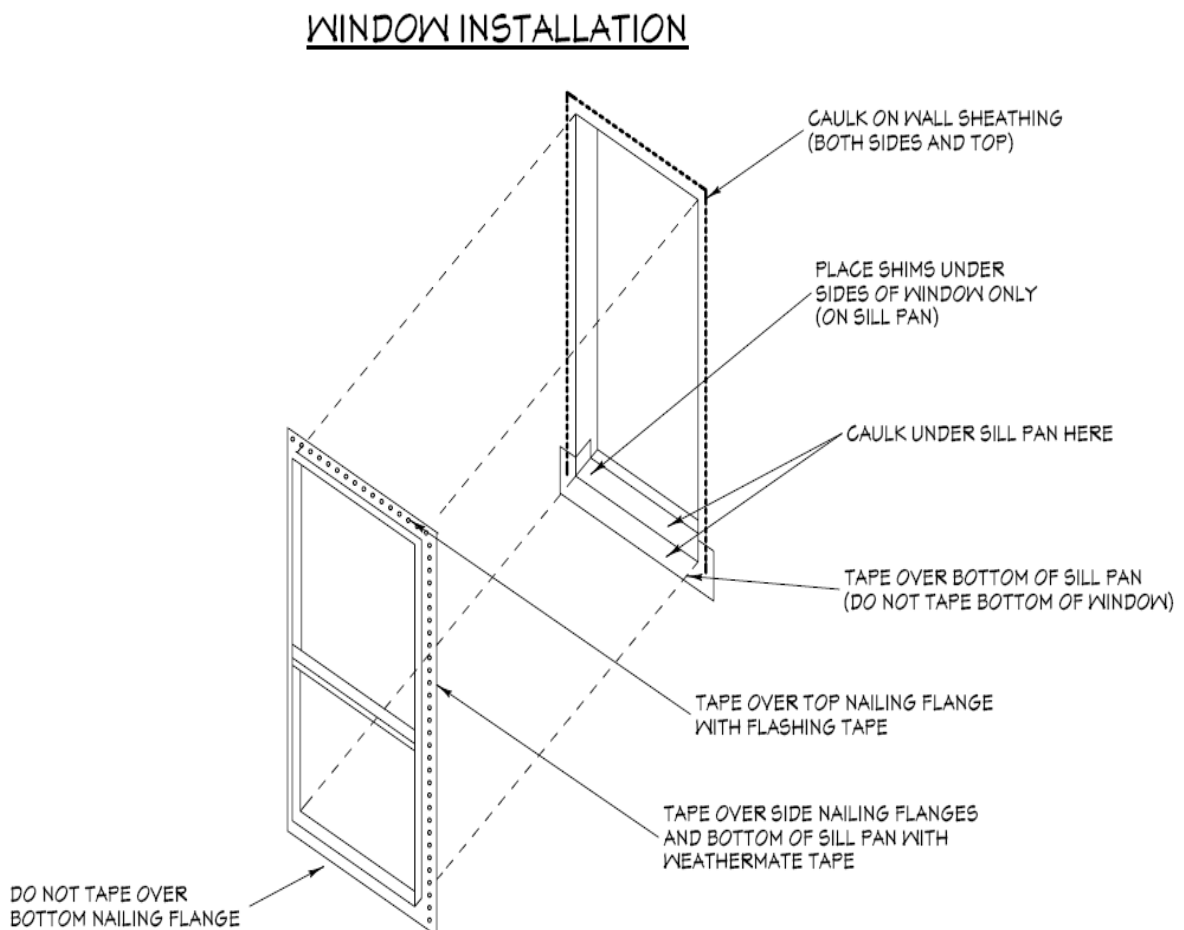

Figure 9-1. Window Installation
1. Install sill pans in the threshold in a manner similar to that with windows (see Figure 9-1).